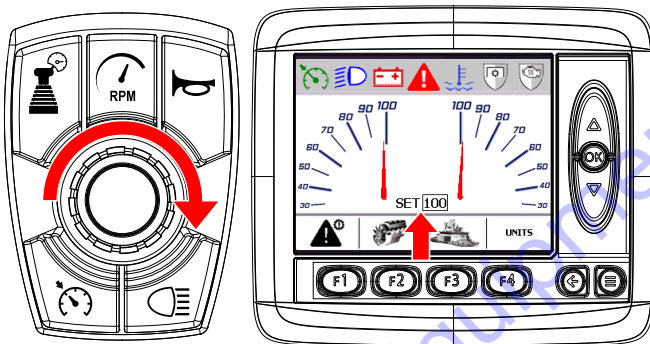

Figure 39. Rotor Speed Selection
- Turn the **control knob** until the desired maximum rotor speed (0–100 rpm) is displayed. During normal operation this will be the rotor speed when the foot pedal is fully depressed. See Figure 39.